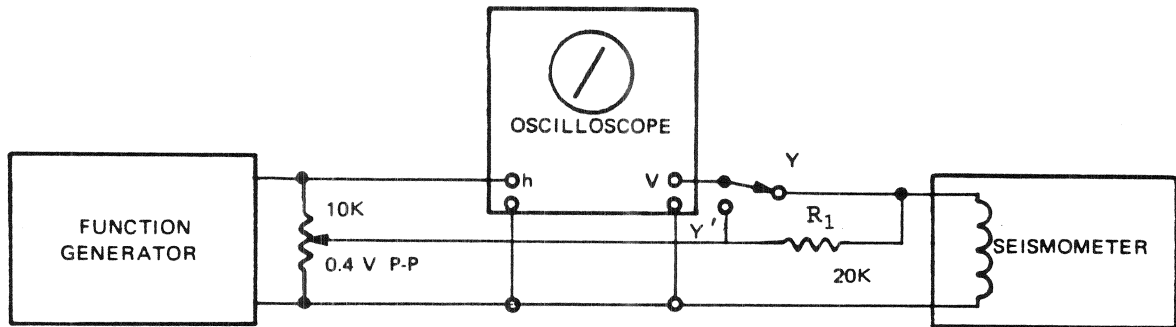

Figure 10. Test setup for determining the equivalent shunt resistance of the seismometer.
- a. Connect a function generator, a dc-coupled oscilloscope, and the seismometer as shown in figure 10.